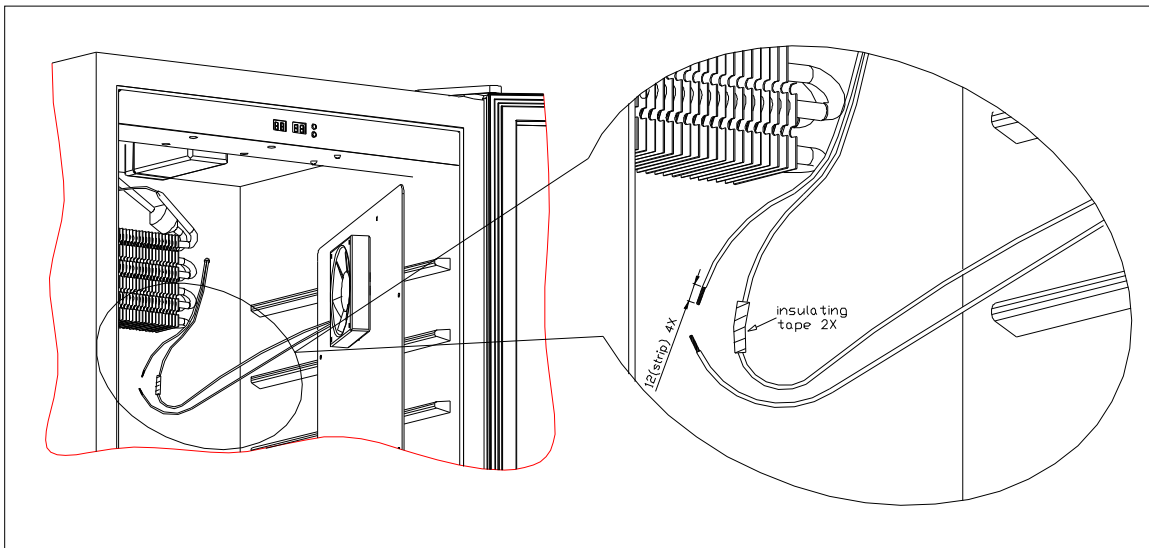

Fig.14
**Ensure this electrical joint is sealed against future water damage, and is electrically safe(Fig.14)**